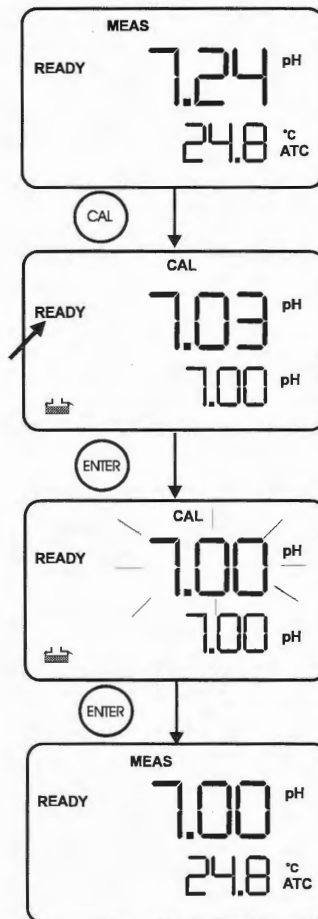

Figure 1: 1st-point calibration
9. If you are performing a one-point calibration, press **CAL/MEAS** key to return to the measurement mode and start taking pH readings (see Figure 1).